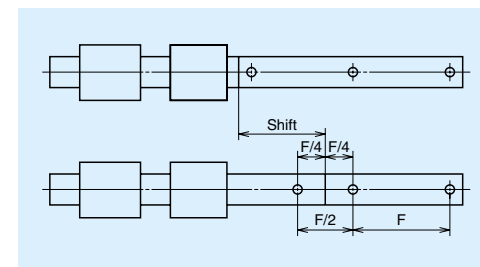

Fig. III-7-4
- The pitch of the rail mounting holes on a butting section should be as F/2 shown in Fig. III-7-4. When these rails are used in a parallel arrangement, the butted sections should not align to avoid change in the running accuracy of the table at these sections.